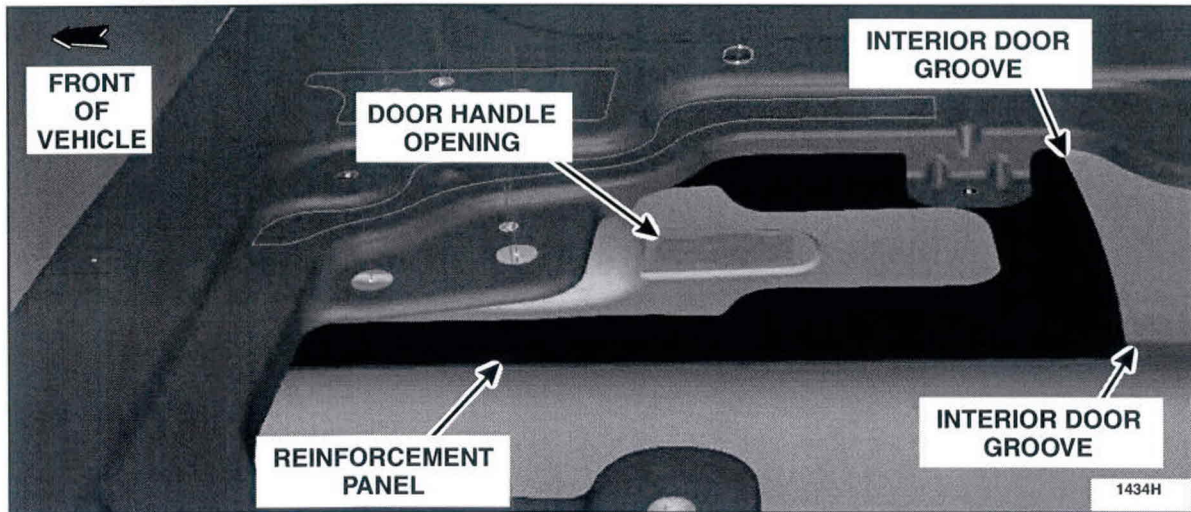

FIGURE 8
9. Dry fit the reinforcement panel between the interior door grooves, around the door handle opening. See Figures 8 and 9.
10. Using isopropyl alcohol, clean the reinforcement panel and the area of the door where the adhesive will be applied. See Figures 8 and 9.
11. Install the reinforcement panel. See Figures 8, 9 and 10.